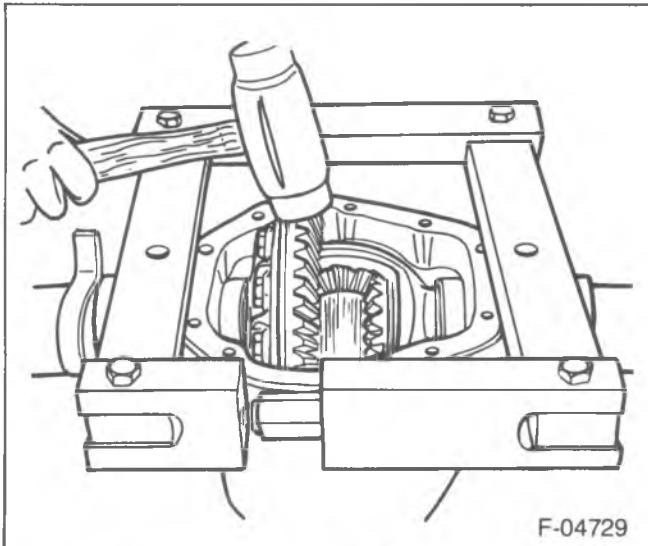

Figure 121—Installing the Differential Case
16. Place the bearing cups (20) onto the bearings.
- Use a rawhide hammer to seat the differential assembly in the axle housing (figure 121).
19. Install the bearing caps (18) in their original positions.
20. Install the bearing cap bolts (19).